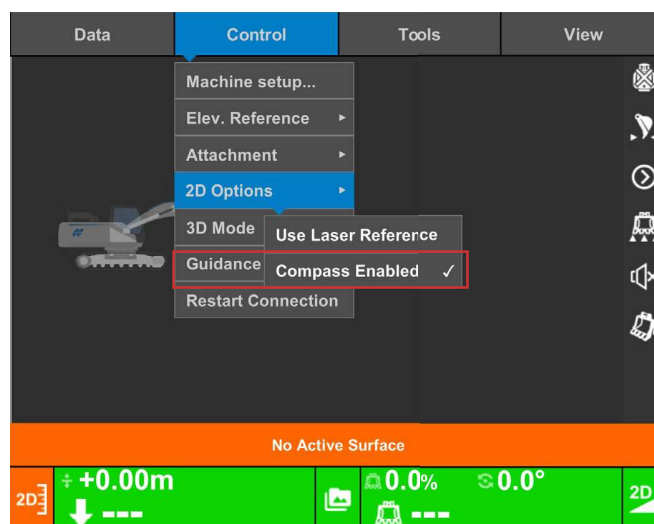

Figure 8-54: Compass Enabled
1. From the **Control** menu, select **Compass Enabled** (Figure 8-54).